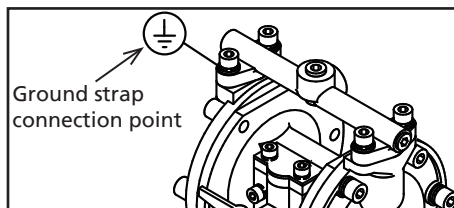

Figure 15
1. When installing the pump, be sure to connect the ground wire at the specified position. For the specified position for connecting the ground wire (See Figure 15).
- Remove the 4 retainer bolts from the inlet manifold and remove the inlet manifold (See Figure 15-A or 15-B).